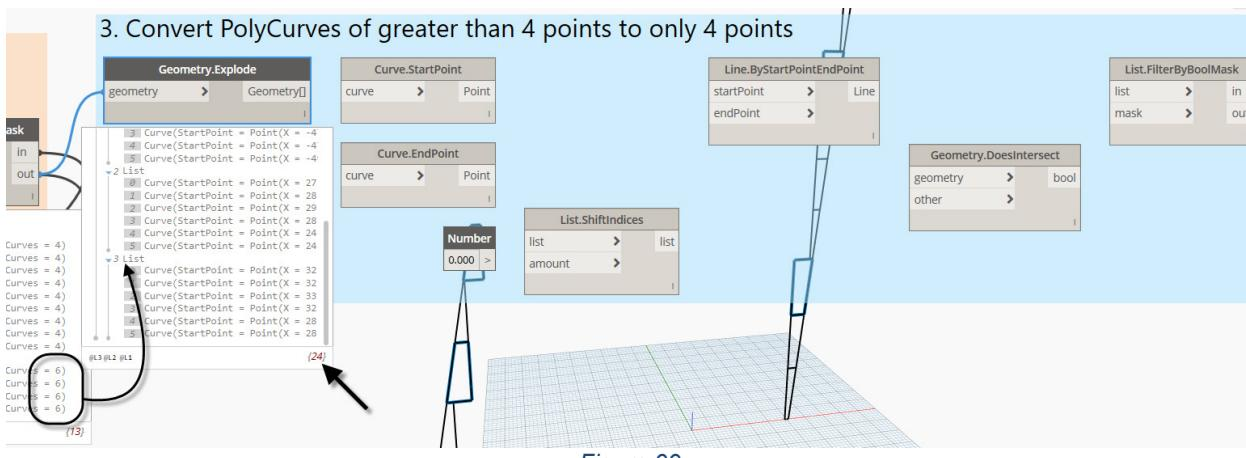

Figure 99
29. Position the nodes as shown in Figure 99.